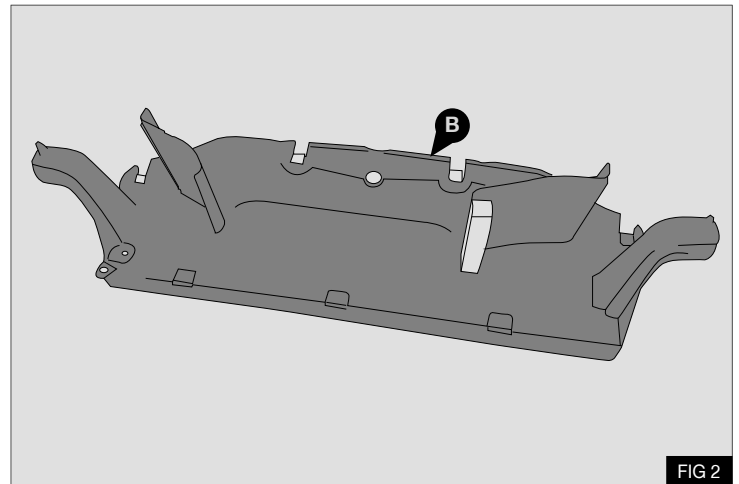

FIG 2
3. Remove and retain plastic guard (B) and its fixings. - Fig 2